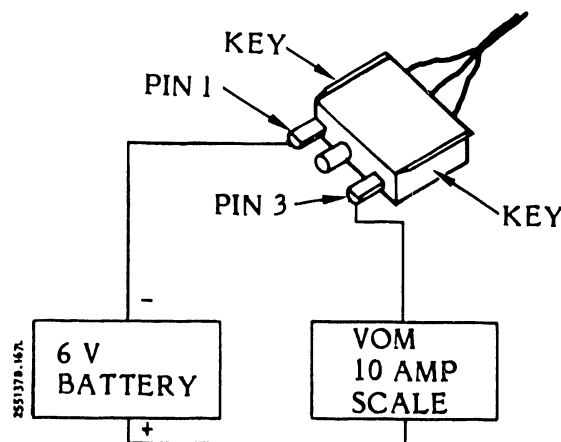

Figure 3-31C. Band Motor Current Test
- k. Test the current flow (see figure 3-31C) as follows: